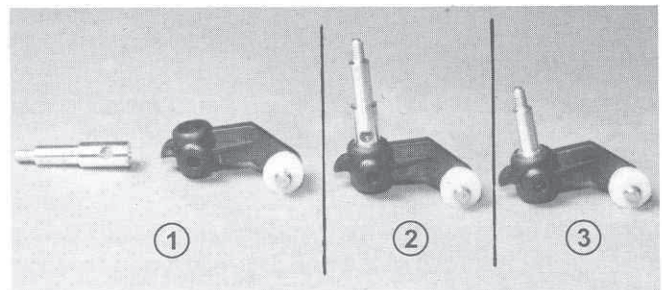

Fig. 4
□ **Fig. 4** 1) In bag #8-1 you will find two #6220 aluminum inline front axles. The hole drilled in the axle is for the steel kingpin which you will install in a couple of steps. 2) In order to install the kingpin easily, use your X-acto® knife to deburr and bevel the outer edge of both sides of the hole.